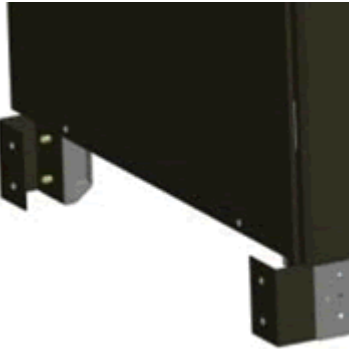

Figure 3.19 U- brackets
2. Attach two U shaped brackets to the base of the UPS cabinet using 2x M5 screws to secure each bracket, as shown in Figure 3.19 – affix the screws through the base of the UPS into the brackets.